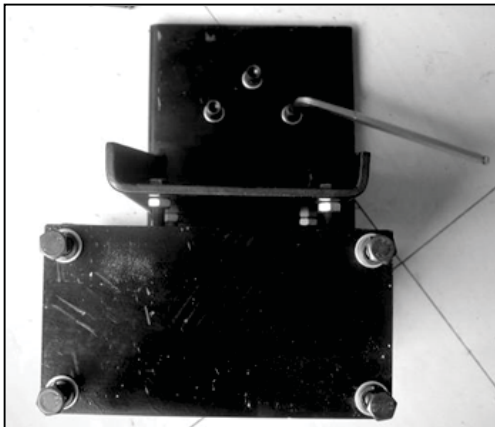

Fig. 30
6.1.2 Unpack the Side Press Arm package and ensure all parts & components are included according to the packing list. After confirmation, take out the base assembly and install using the hex socket screw and washer (Fig. 30).